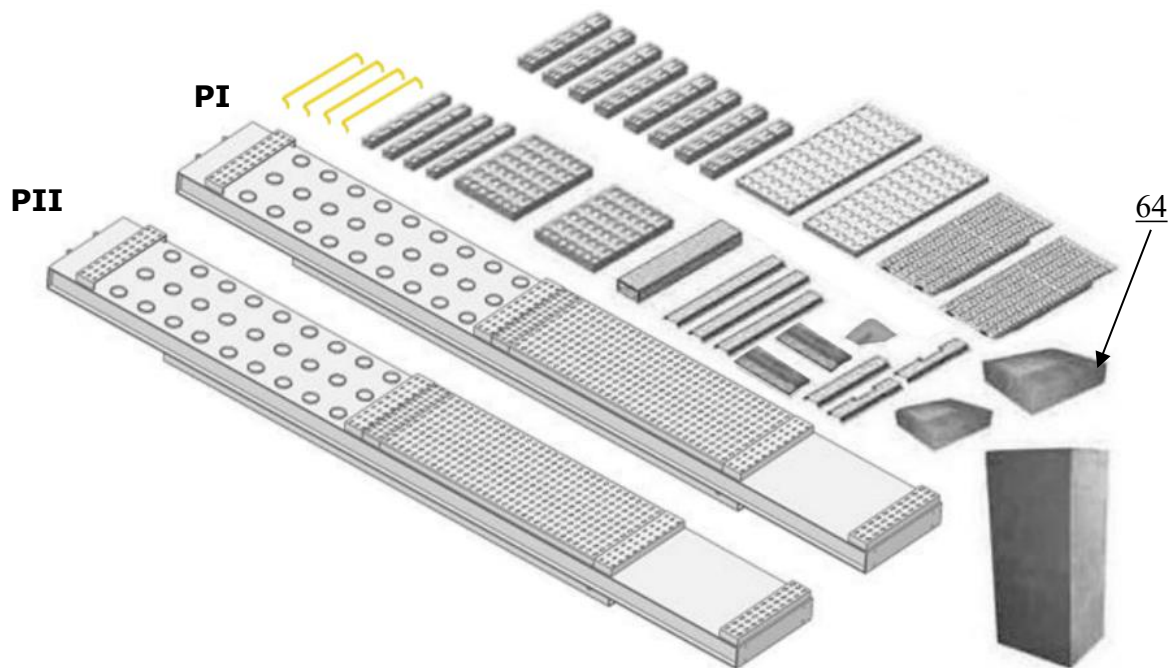

Fig. 8
2.1 Parts for lift on surface installation **(See Fig.8)**